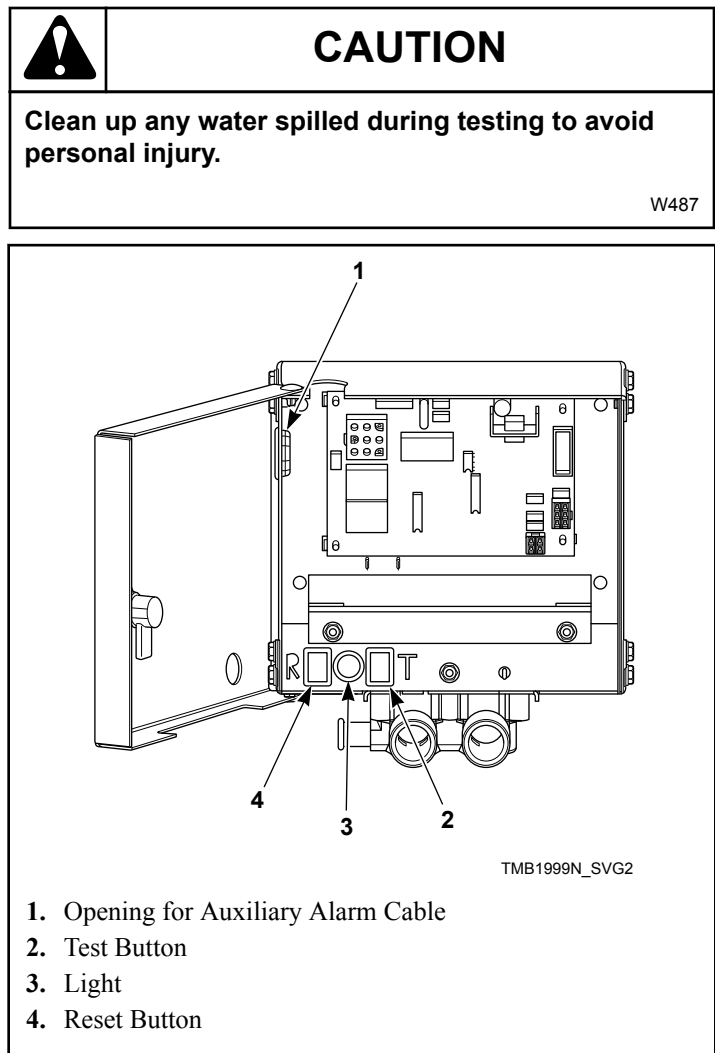
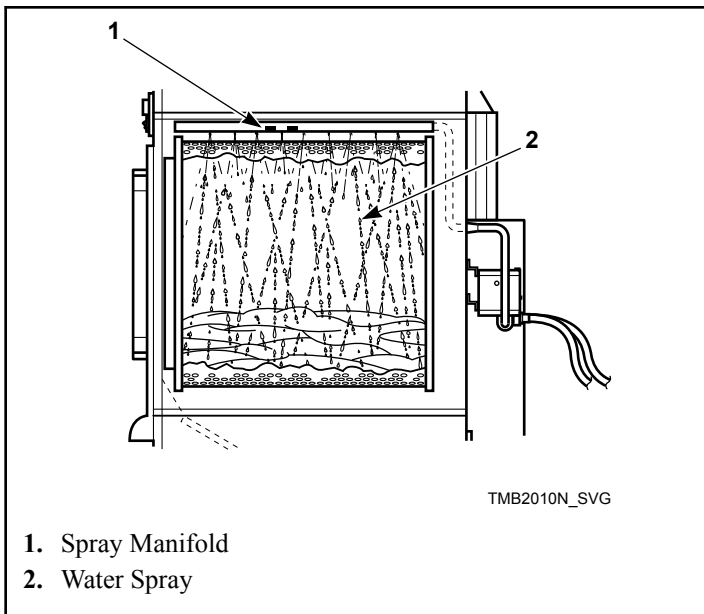

Figure 51
Figure 52
6. Press and hold the test button, verify the light is on, this should take approximately five seconds. Refer to *Figure 51*. After a one-second pause water should begin to spray into the cylinder.
7. After 15 seconds of water spray, press and hold the reset button until water spray is off and light is off. This should take approximately one second. Refer to *Figure 51* and *Figure 52*.